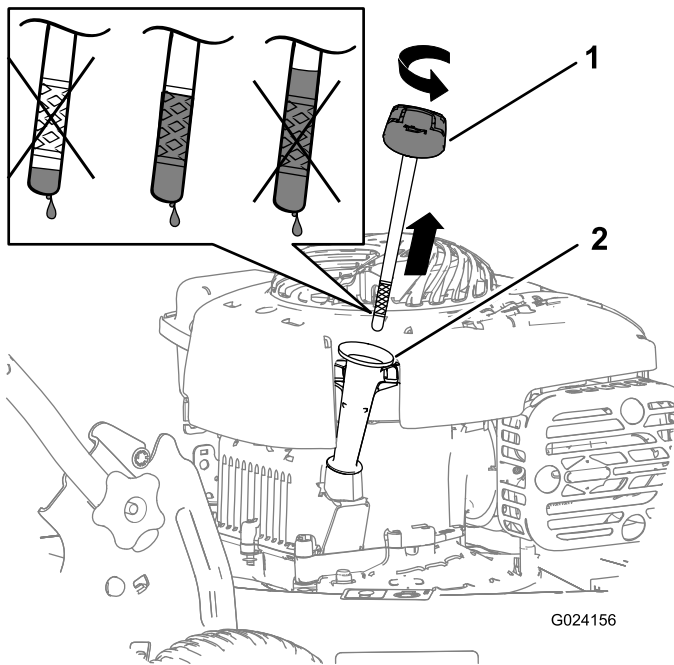

Figure 5
2. Remove the dipstick (Figure 5) and pour about 3/4 of the crankcase capacity of oil into the oil-fill tube.
5. Remove the dipstick and read the oil level on the dipstick (Figure 5).